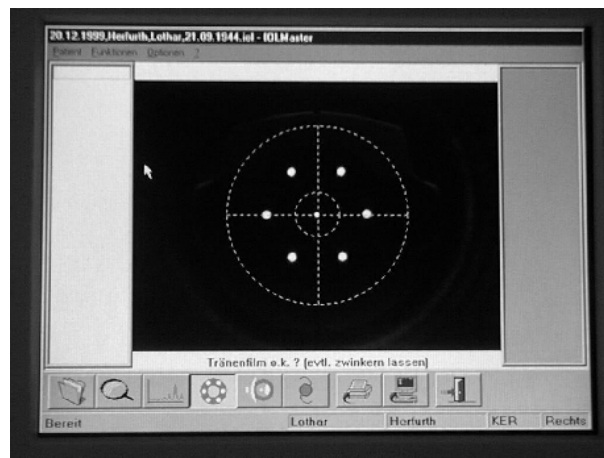

Fig. 14
- Turn the keratometer in such a way that the two horizontal keratometer measuring points are parallel to the horizontal line of the crosshairs (see Fig. 14).